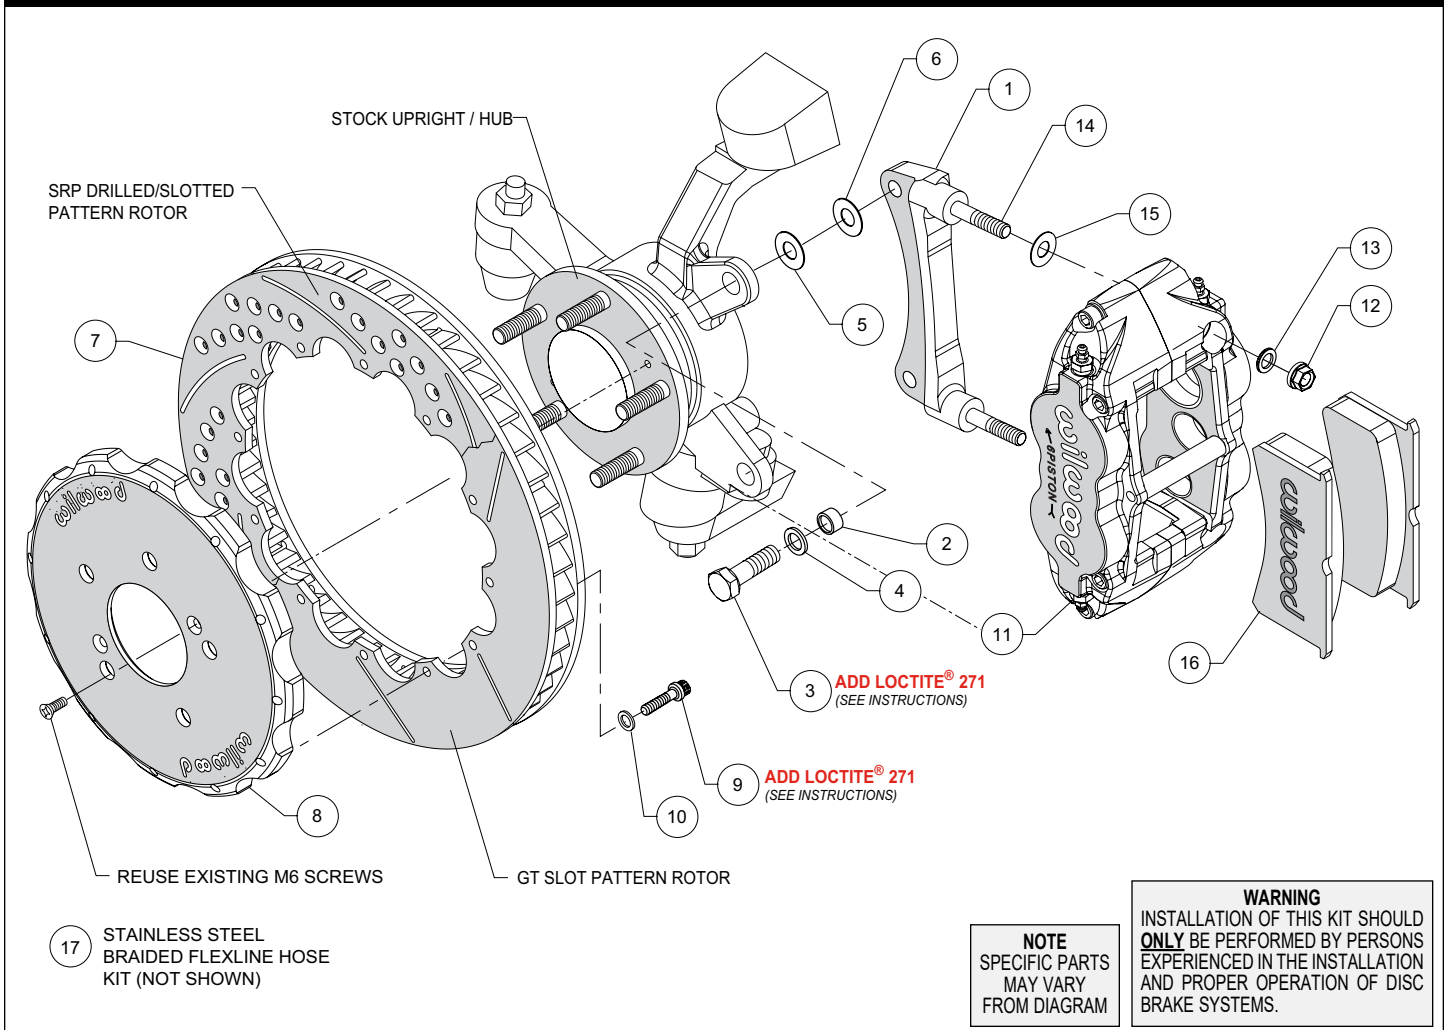
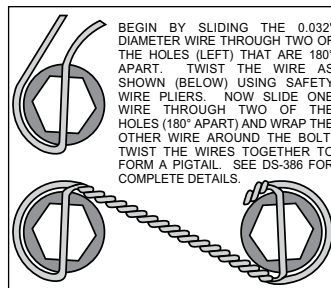

Figure 1. Typical Installation Configuration
Figure 3. Safety Wire Diagram
**Assembly Instructions** (numbers in parenthesis refer to the parts list and Figure 1 on the preceding pages):
- The caliper mount bracket (1) should initially be installed with clean, dry threads on the mounting bolts. Orient the bracket as shown in Figure 1 and Photo 1, and install using bolts (3), washers (4) and sleeve (2) inserted into the mount holes in the upright. Initially place one .030 thick shim (6) on each bolt between the bracket and upright, Figure 1. Temporarily tighten the mounting bolts. **NOTE: The bracket must fit squarely against the mount bosses on the upright.** Inspect for interference from casting irregularities, machining ridges, burrs, etc. Later, after the caliper alignment has been checked, the mount bolts will be secured using red *Loctite*® 271.
- Orient the rotor (7) and the hat (8) as shown in Figure 1 and Photo 2. Attach rotor to hat using bolts (9) and washers (10). Apply red *Loctite*® 271 to the bolt threads and torque to 155 **in-lb** using a criss-cross pattern. For an added measure of security, the bolts may be safety wired using standard 0.032 inch diameter stainless steel safety wire as shown in Figure 3. Please refer to Wilwood's data sheet DS-386 (available at [www.wilwood.com/Pdf/DataSheets/ds386.pdf](http://www.wilwood.com/Pdf/DataSheets/ds386.pdf)) for complete safety wire installation instructions.
- NOTE: This kit contains distinct right and left hand calipers that must be mounted in a specific direction, as described below.** Initially place one .035" thick shim (15) on each stud (14) as shown in Figure 1 and Photo 3. Mount the caliper (11) onto the bracket (1) using lock nuts (12) and washers (13), Figure 1. Ensure that the caliper is mounted so that the largest pistons are at the rotor exit end of the caliper, in relation to the direction of rotor rotation. Temporarily tighten the lock nuts and view the rotor through the top opening of the caliper. The rotor should be centered in the caliper, Photo 4. If not, adjust by adding or subtracting shims (5 and/or 6) between the bracket and the upright. Always use the same amount of shims on each of the two mounting bolts. Once the caliper alignment is correct, remove the bracket mounting bolts (3) one at a time, apply red *Loctite*® 271 to the threads, and torque to 42 ft-lb.